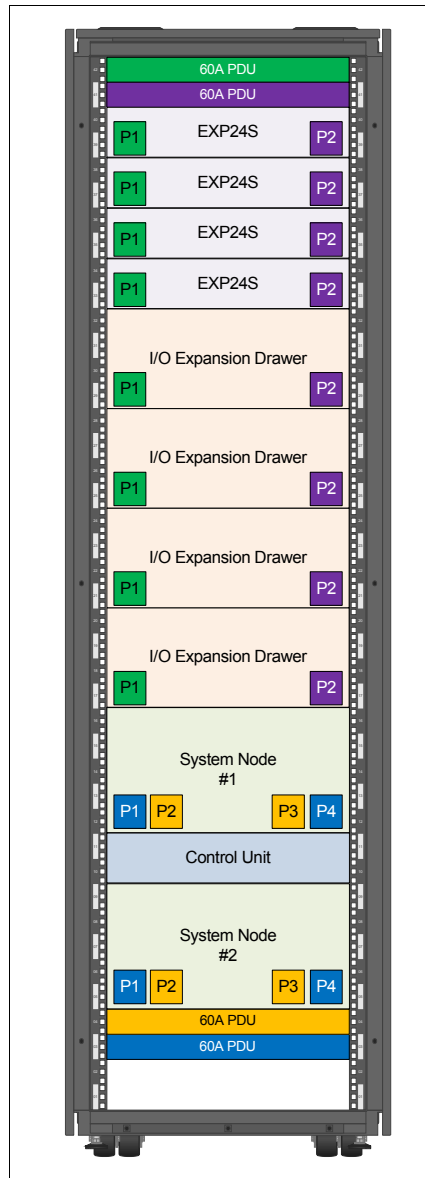

Figure 1-13 Two system nodes configuration with I/O expansions and disk drawers supplied by 60A PDUs
- For PDU #7109 and #7188 when using three phase power cords or 48 Amp power cords #6491 or #6492, each pair of PDUs can power up to two Power E870 or Power E880 system nodes and two I/O expansion drawers, or eight I/O expansion drawers. 48A PDU cables are used to supply 60A PDU. In Figure 1-13 on page 34, you can see the rack configuration with two pairs of 60A PDUs supplying a two system node configuration, four I/O expansion drawers, and four EXP24S disk drawers.